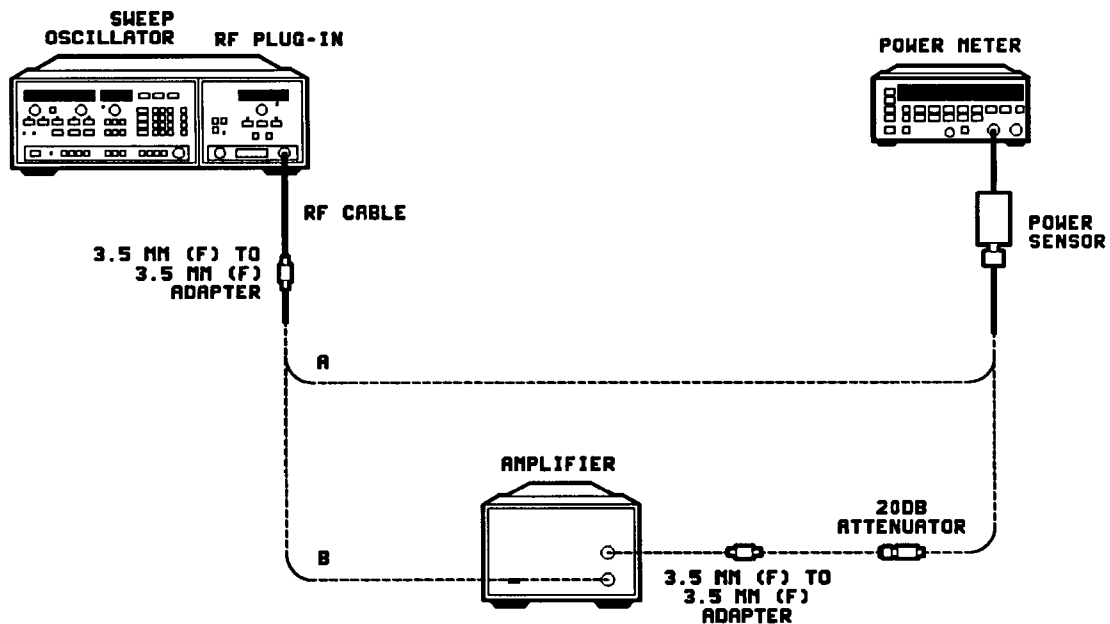

Figure 3-3. Operator's Check Test Setup
The equipment required to perform the operator's check is illustrated in Figure 3-3. Refer to Table 4-1 for critical specifications and recommended model numbers. Other equipment may be substituted if it meets or exceeds the critical specifications listed.
2. Connect the equipment as shown in Figure 3-3, point A, with the power sensor connected to the RF plug-in through a 3.5 mm(f) to 3.5 mm(f) adapter (without the amplifier, the second 3.5 mm(f) to 3.5 mm(f) adapter, or the 20 dB attenuator).
4. Disconnect the power sensor from the adapter and connect the equipment as shown in Figure 3-3, point B, with the amplifier, the second 3.5 mm(f) to 3.5 mm(f) adapter, and the 20 dB attenuator connected between the first 3.5 mm(f) to 3.5 mm(f) adapter and the power sensor.